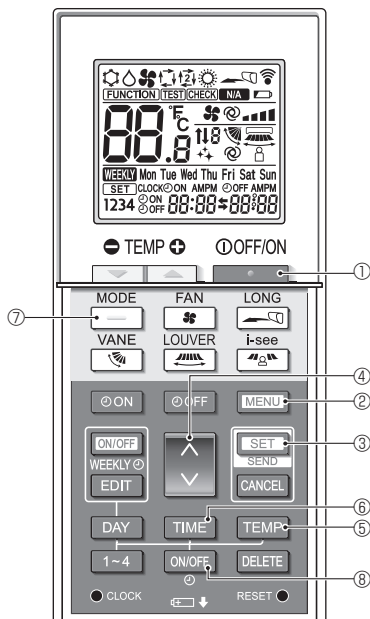

Fig. 6-9
1. Press the **•** button ① to stop the air conditioner.
2. Press the **IMENU** button ②. The Function setting screen will be displayed and the function No. Ⓐ will blink. (Fig. 6-9) Press the **↓** button ④ to change the function No.